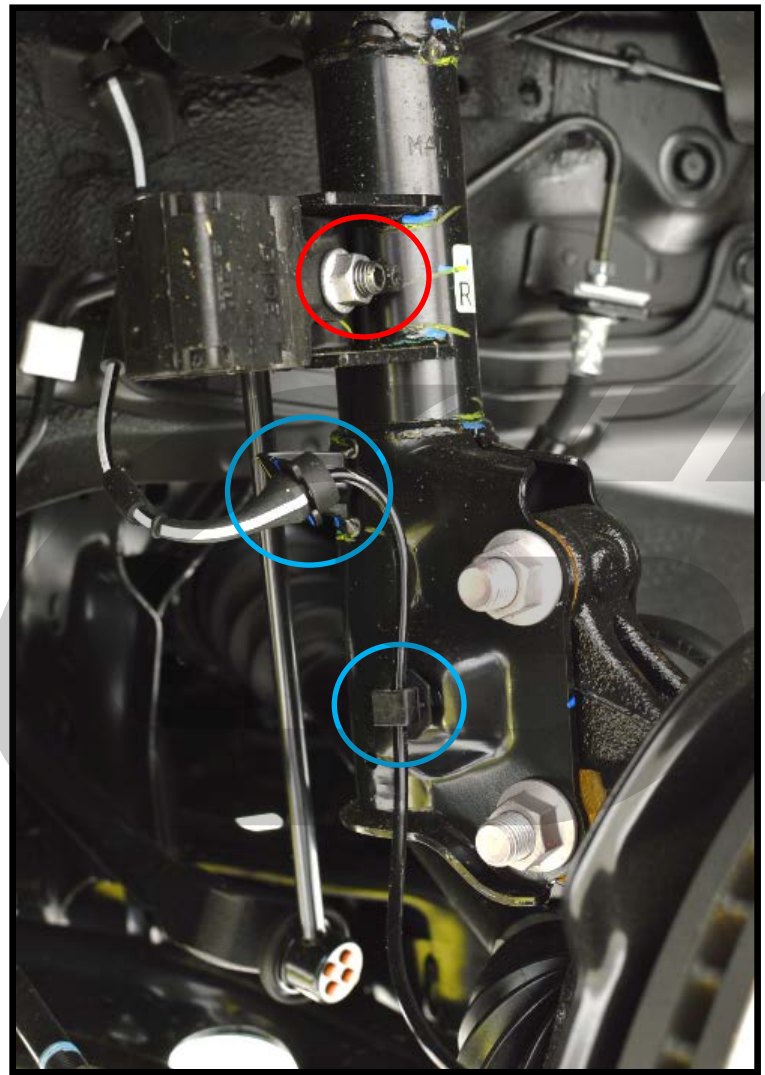

Figure 1a
- c) Remove the 14mm/5mm Allen nut holding the front sway bar end link, then remove end link from the strut body. **Red circle in Figure 1a.**
- d) Remove the ABS sensor wire. Pull the ABS wire from the metal bracket then open the plastic clip. **Blue circles in Figure 1a.**